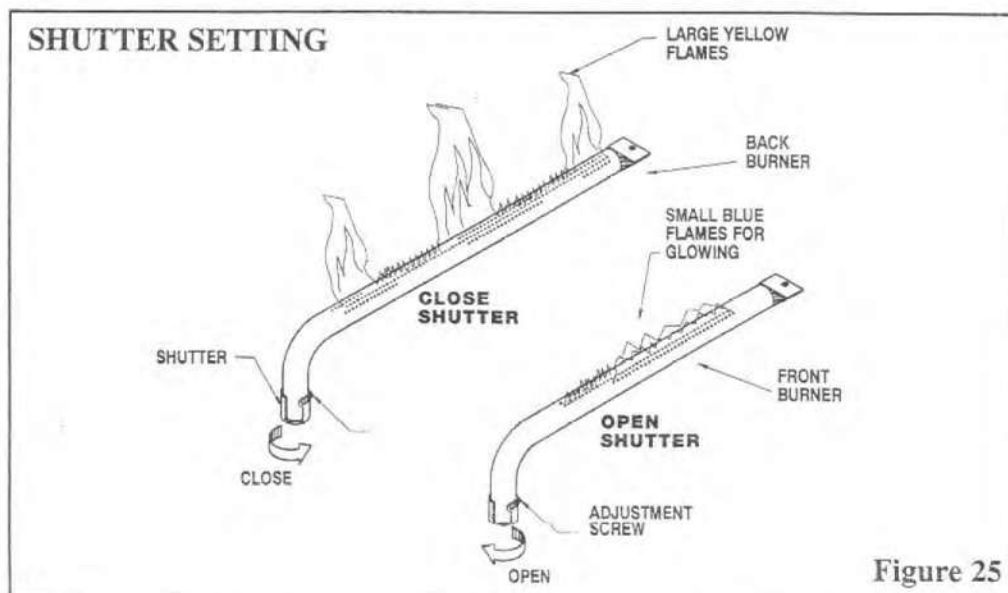

Figure 25
When the fireplace is turned on initially, for the first hour you will notice a yellow flame where the glowing is normally seen in front, this will change to glowing gradually. Also check the back flames for sooting at the initial start up of the fireplace. If sooting is observed, re-adjust the shutter opening as shown in Figure 25. To prevent sooting the shutter must be opened more. It is the installers or
9. Periodically perform a visual check of your appliance's flame pattern. Refer to Figure 25.